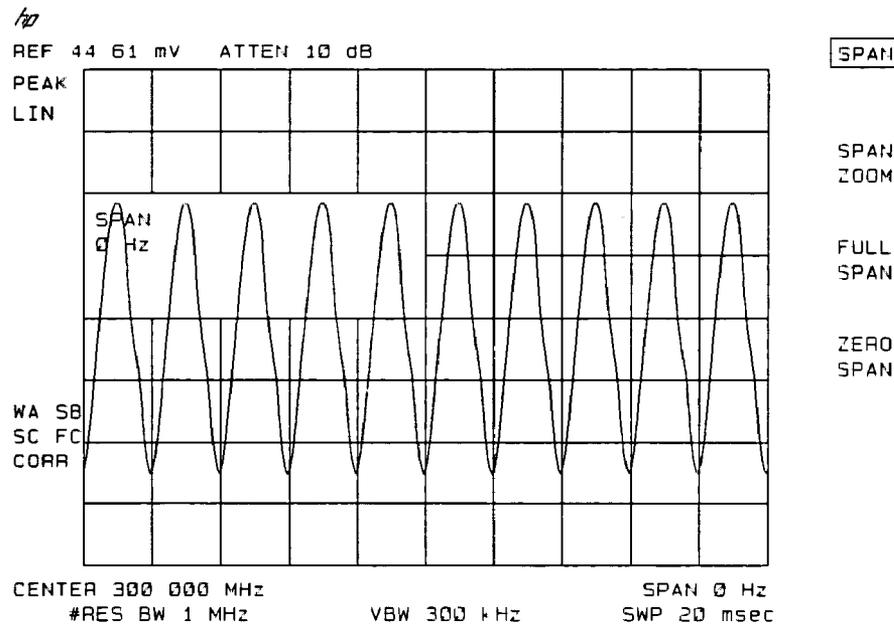

Figure 6-29. Measuring Modulation In Zero Span
5. To select zero span, press **[SPAN]**, **0 [Hz]** or **ZERO SPAN**. See Figure 6-29. If the modulation is a steady tone (for example, from a signal generator), use video trigger to trigger on the waveform and stabilize the display. Adjust the sweep time to change the horizontal scale.